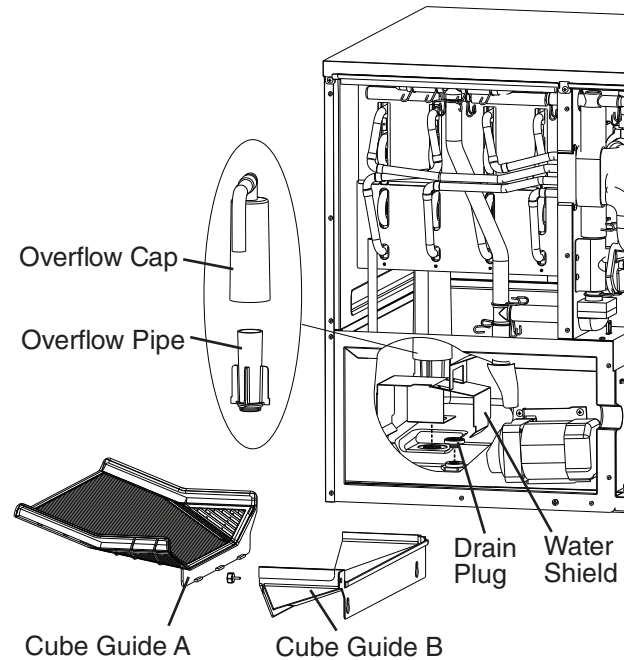

Fig. 4
- 3) Remove the insulation panel. Remove cube guide B, then remove cube guide A. See Fig. 4. Remove the overflow cap, overflow pipe, and water shield.